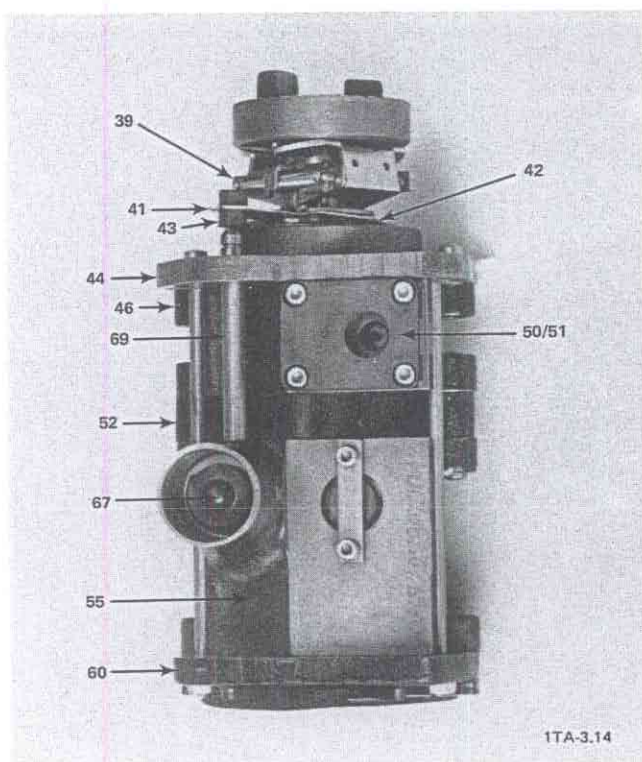
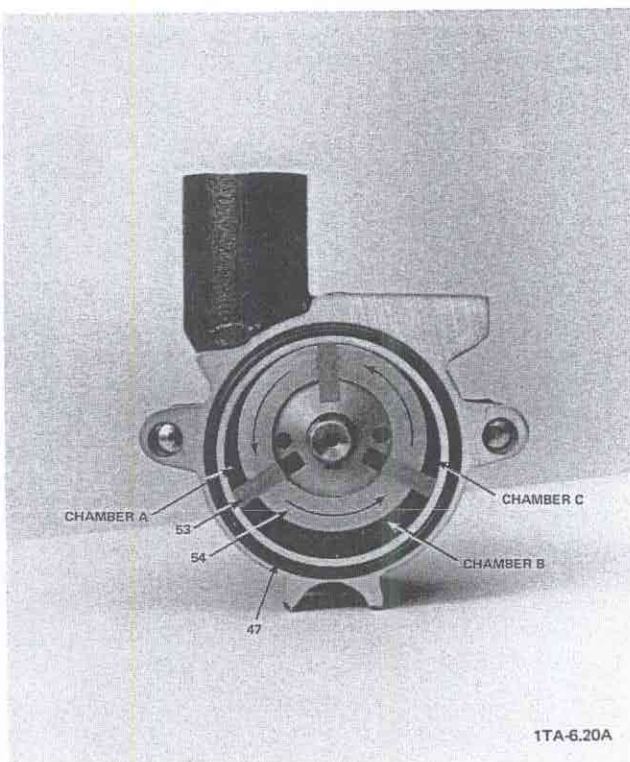

Figure 2-1. D4A Module
Figure 2-2. High Vacuum Stage Pump Cylinder With Rear End Plate Removed
The pump intake tube (1) fits into the top of the high vacuum stage pump cylinder (55). The shaft and attached rotor (54) are mounted eccentrically in the high vacuum stage housing (52/60/55). Three rectangular vanes (53) fit into slots in the rotor (54) (see Figures 2-1 and 2-2).
As the shaft and rotor (54) rotate, centrifugal force pushes the vanes (53) out against the pump cylinder (55) inner surface (see Figure 2-2). The three vanes divide the cylinder into chambers  $120^\circ$  apart.
One pumping cycle proceeds as follows (see Figure 2-2). Gas is drawn through the pump intake tube (1) into an increasingly large vacuum tight chamber (Chamber A). The rotation increases the size of the chamber until it is sealed off by a second vane (Chamber B). Further rotation diminishes the chamber size and compresses the gas (Chamber C). The gas is then forced out through an opening in the center bearing plate (52) and into the second stage pump cylinder (46) (see Figure 2-1).
The second stage of the pump is similar to the high vacuum stage in construction and operation. It accepts gas from the high vacuum stage, further compresses it, and then forces it out through the exhaust valve (50/51) (see Figures 2-1 and 2-3).
The primary components of the anti-suck back mechanism are the centrifugal switch (39), the lever (41) with spring (42) and seal (43), the air inlet tube (69), and the piston (68) with valve disk (67) (see Figure 2-1).
The centrifugal switch (39) is attached to the shaft. When the pump is turned off, the shaft rotation slows, causing the centrifugal switch (39) to push against the lever (41). As a result, the lever (41) opens the air inlet tube (69) (see Figure 2-1). Air at atmospheric pressure rushes through the open tube (69) and into the high vacuum stage pump cylinder (55), thus venting the pump. This air also forces the brass piston (68) and attached valve disk (67) to seal the pump intake tube (1).